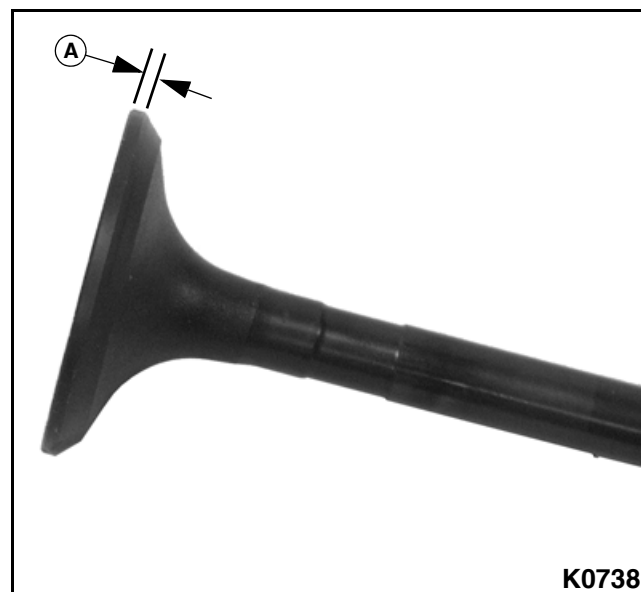

Figure 3-140: Valve Margin Thickness
8. Check the valve margin thickness (A). **See Figure 3-140.**